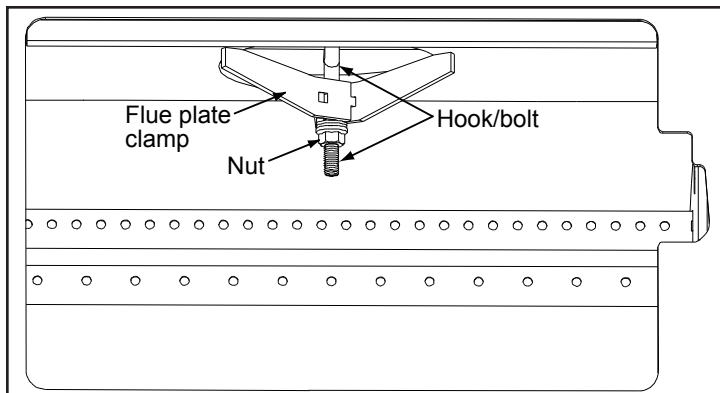

Figure 34: Attaching removable flue.
- a) Remove the first two (2) front secondary air tube and ceramic baffles, if installed (see CERAMIC BAFFLE INSTALLATION).
- b) Unscrew the nut on top of the inside of the firebox, using a $\frac{9}{16}$ " wrench or socket (see Figure 34). The flue plate clamp will slide off the hook/clamp.